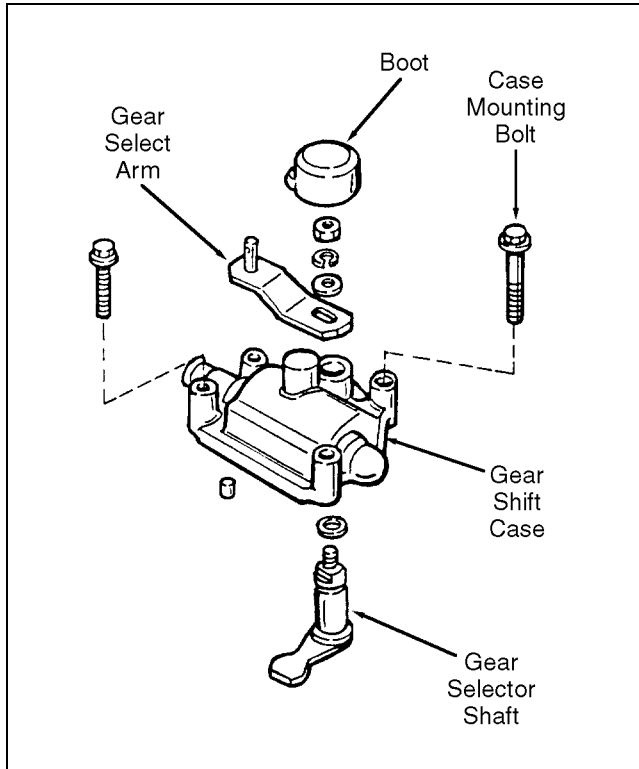

Figure 4G-2. Gear Shift Case
2. If necessary, disassemble the gear shift as shown in Figure 4G-2.
#### EXTENSION CASE (See Figure 4G-3)